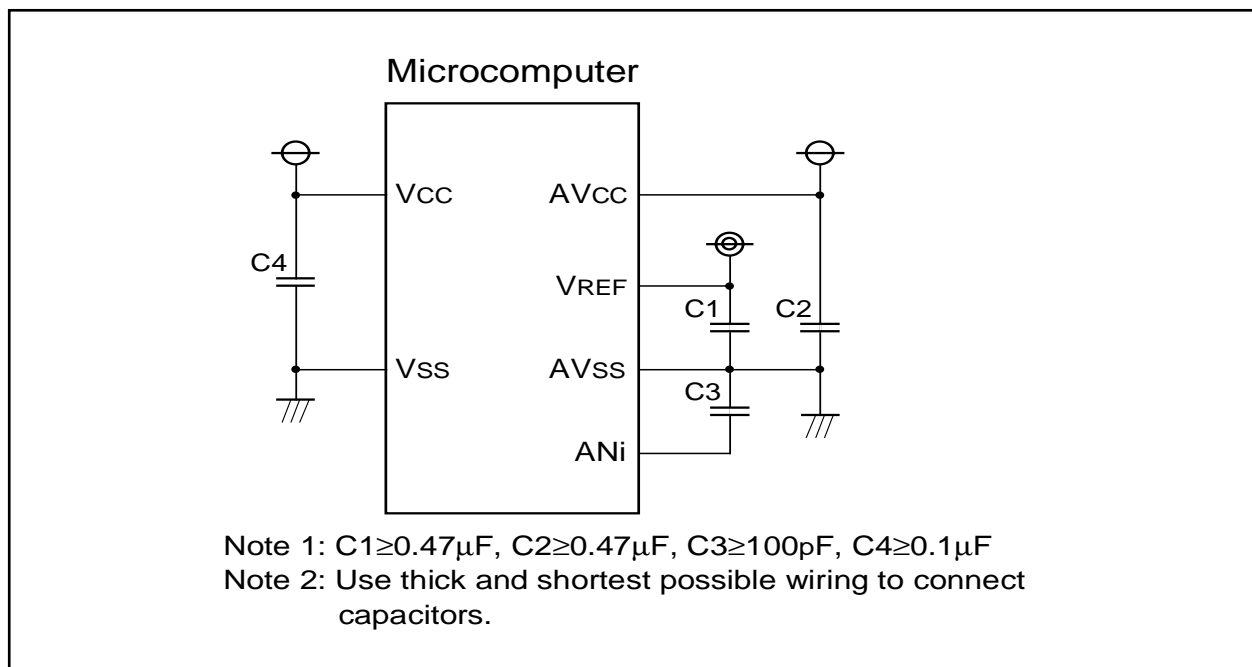

Figure 1.20.10. Example connection of Vcc, Vss, AVcc, AVss, VREF and ANi
- (1) Set the direction register of the following ports to input: the port corresponding to a pin to be used as an analog input pin and external trigger input pin(P97).
- (2) In using a key-input interrupt, none of 4 pins (AN₄ through AN₇) can be used as an A-D conversion port (if the A-D input voltage goes to "L" level, a key-input interrupt occurs).
- (3) Insert the capacitor between AV_{cc} and AV_{ss}, between V_{REF} and AV_{ss}, and between the analog input pin (AN_i) and AV_{ss}, to prevent a malfunction or program runaway, and to reduce conversion error, due to noise. Figure 1.20.10 is an example connection of each pin.